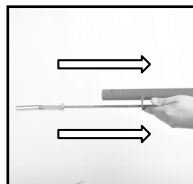

Fig.3
2. Remove the R pin and nut on the locking rod (4), insert the locking rod (4) through the handle yoke guide on the lower handle tube, then screw on the nut. (Fig. 3)